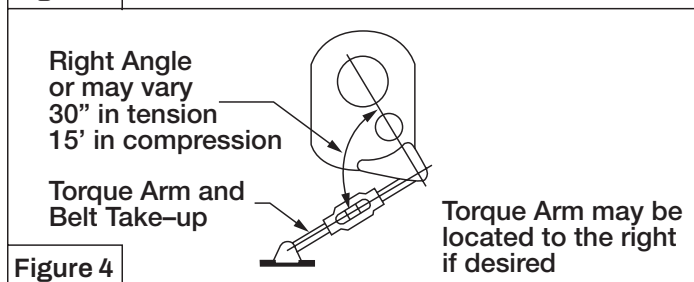

Figure 4
7. Install torque-arm fulcrum on a flat and rigid support so that the torque-arm will be approximately at right angles to the center line through the driven shaft and the torque-arm anchor screw (see Figure 4). Make sure that there is sufficient take-up in the turnbuckle for belt tension adjustment when using V-belt drive.